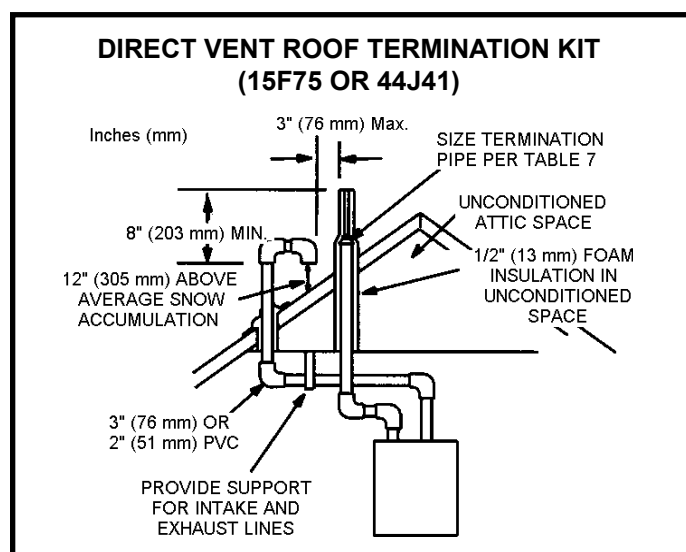

Figure 33
Intake and exhaust pipes may be routed either horizontally through an outside wall or vertically through the roof. In attic or closet installations, vertical termination through the roof is preferred. Figures 33 through 44 show typical terminations.
3. On roof terminations, the intake piping should terminate straight down using two 90° elbows (See Figure 33).